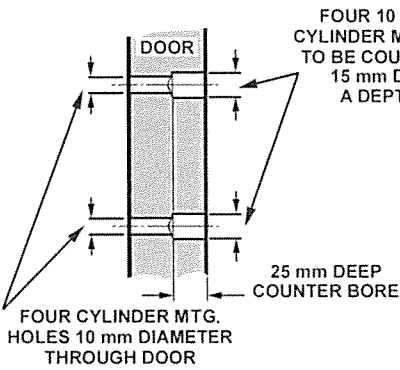

FIGURE 4
5. Remove Lock Body from door & drill four 10mm diameter holes through door, then counter bore each 15mm diameter x 25mm deep from the outside. Drill Lock Cylinder hole 32mm diameter. (Fig. 4 & 5)